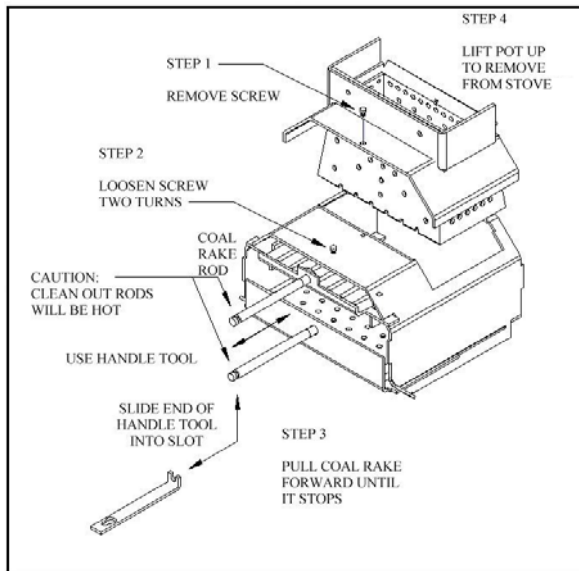
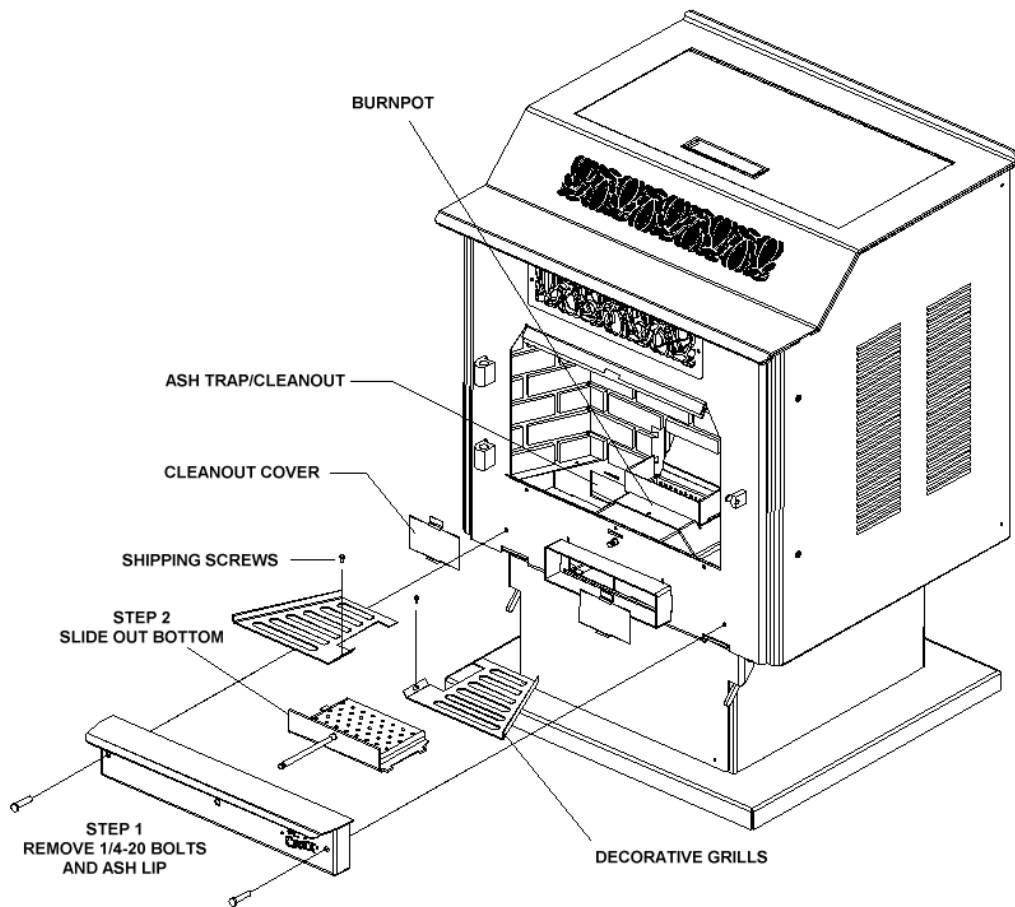

Figure 8
Figure 9
1. **The coal Rake.** The first step is to push the coal rake in and shave the burning coals and corn off the top of the clinker. Once this is done open the door and add a ¼ cup of pellets on top of the coals (*See figure 6 below*). To push in the Coal rake, use the Rod Handle tool shown in figure 8 on page 15.
3. **The slide out bottom.** (*See figure 7 on page 14*) Now you are ready to drop the clinker from the burn pot. Pull the bottom out in one quick motion and let the clinker drop into the ash pan. Quickly push the bottom in again. To pull out the slide bottom use the Rod Handle tool shown in figure 8 on page 15 (see point 2 at the top of page 15).
6. Cleaning the Heat exchange tubes. Now you can pull the tube scraper back and forth a couple of times to keep the tubes clean. If the Tube Scraper feels sticky and difficult to move, check for the presence of creosote on the tubes. If creosote is present a damper adjustment may be needed or the Stove has become plugged and needs a thorough cleaning. Call Dealer for assistance. To pull the tube scraper back and forth use the Rod Handle tool shown in Fig. 8 on page 15.
2. **Burnpot and Slide-Out Bottom.** Clean burn grate holes whenever needed. Remove the Burnpot and use a small metal object (Nail, Drill Bit, etc) to clean out plugged holes. (See Figure 8 & 9)
To remove the Burnpot from the stove, the Coal Rake must be pulled back so the pot will clear it. Open the Firebox door of the stove and you will see 2 Hex head screws. Follow steps 1 through 4 in figure 8 to remove the Burnpot from the stove. To remove the Slide-out Bottom follow steps 1 and 2 in figure 9.
3. **Clean-Out Ports/Ash Traps.** The stove has 2 Exhaust Cleanout Ports located in the LEFT AND RIGHT lower corners of the firebox. Left Cleanout/Ash Trap Cover shown in figure 9. To access the Ash Traps first remove the shipping screw that hold the Decorative Grills in place. These screws may be discarded at this point. Remove covers and clean regularly with a vacuum.
1. **Spring Shutdown.** After the last burn in the spring, cool the stove. Remove all corn from the hopper and the auger. Thoroughly clean the burn pot, burn pot box, ash pan and ash traps behind the ash pan. (To locate the ash traps see figure 9 on page 16)